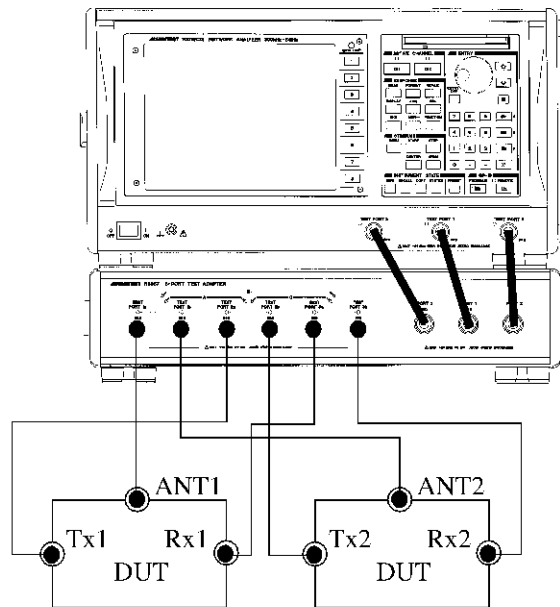

Figure 4-4 R3967 OPT11 Setup Diagram
1. Figure 4-4 shows the setup.